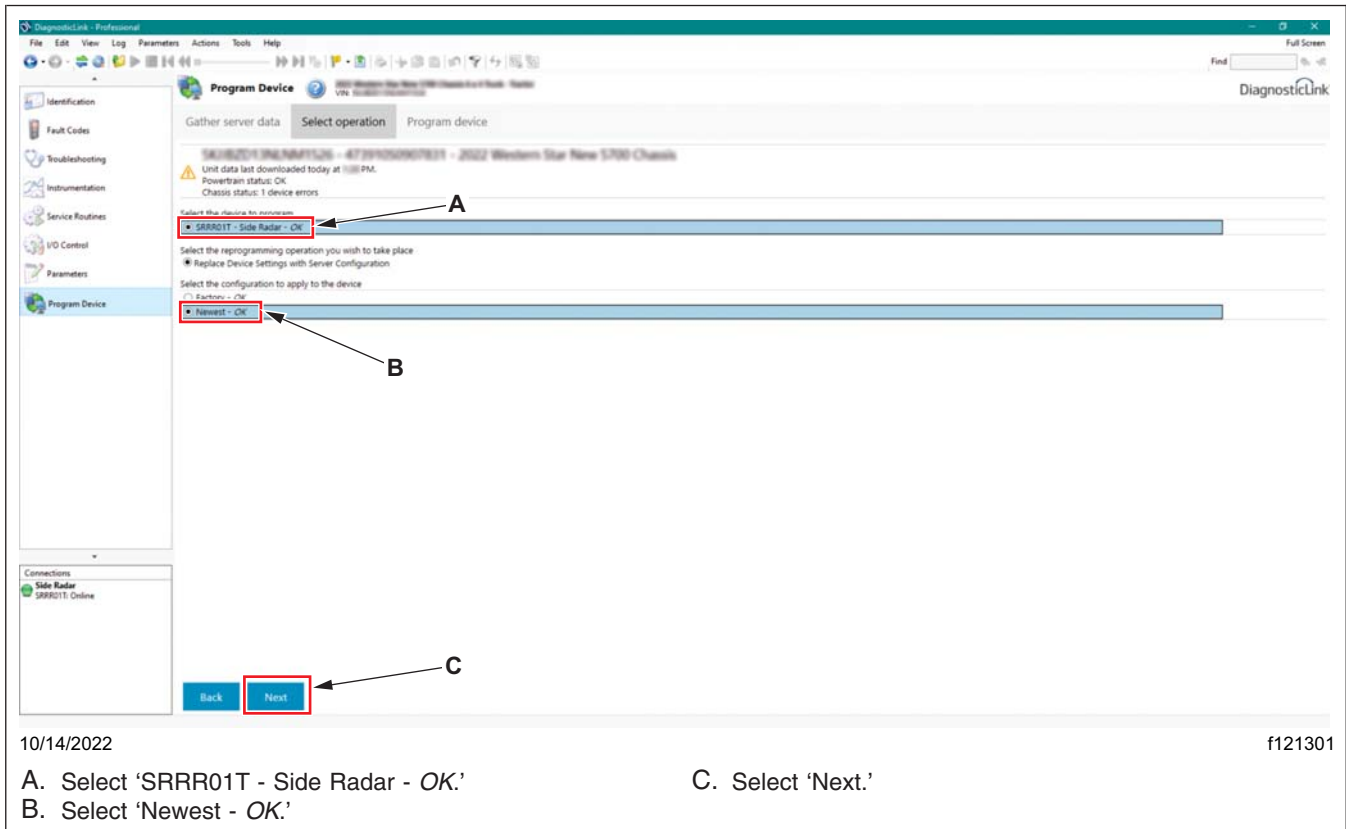

Fig. 18, Selecting the Device Configuration
12.1 Select 'SRRR01T - Side Radar - OK' as the device to program. See Fig. 18.
12.2 Select 'Newest - OK' as the configuration to apply to the device. See Fig. 18.
12.3 Select 'Next.' See Fig. 18.